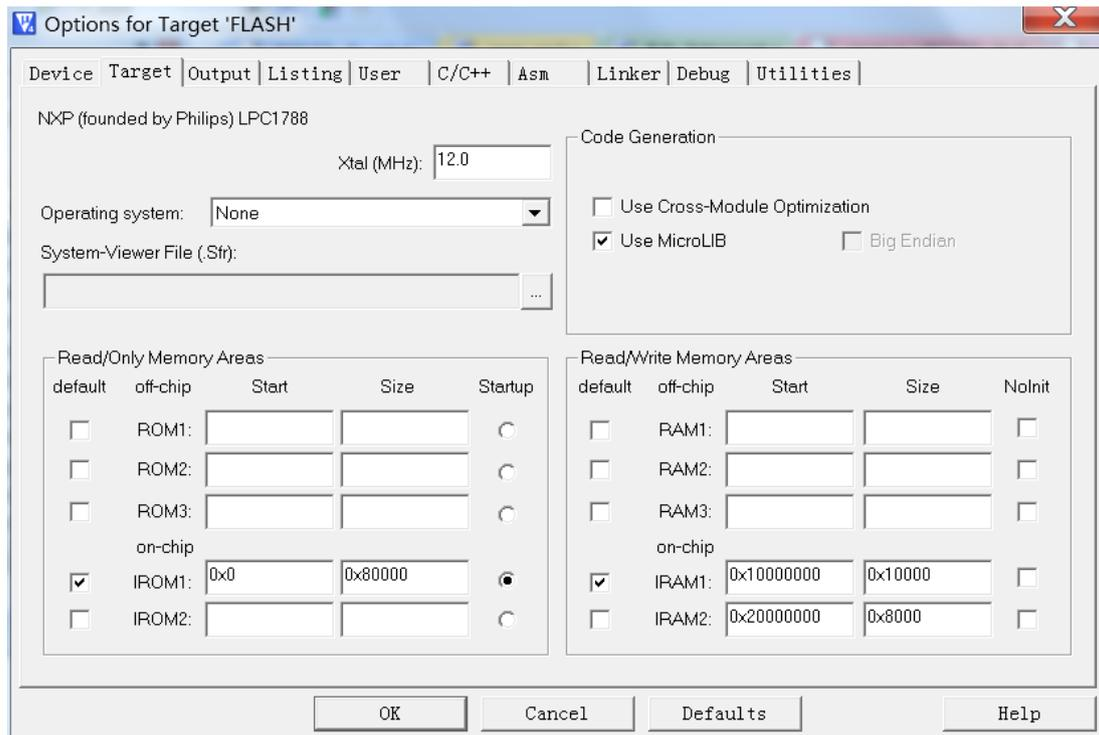

Figure 3-1
(1) Select“**Option for target FLASH**” or press Alt + F7.The Setting window is shown in figure 3-1: